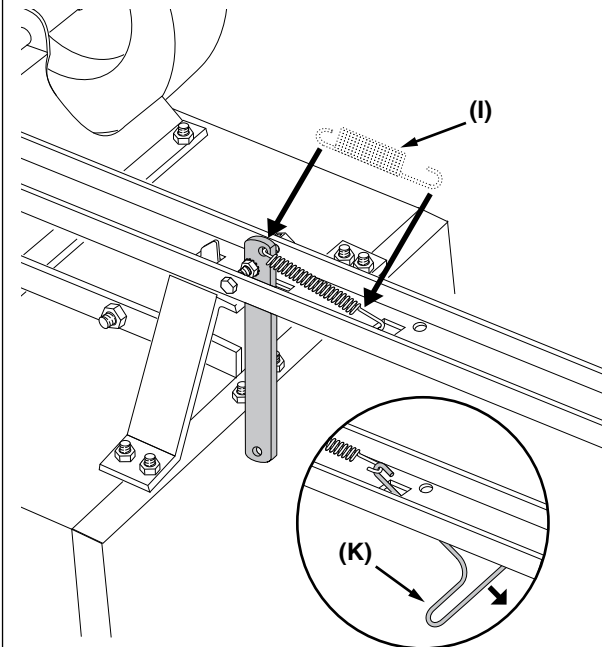

Figure 16
STEP 17 (SEE FIGURE 16): Attach the extension spring (I) to the latch lock lever by inserting one end into the hole in the latch lock lever. Using the spring puller tool (K), attach the other end of the extension spring (I) to the square hole in the draw bar tongue as shown in figure 16.